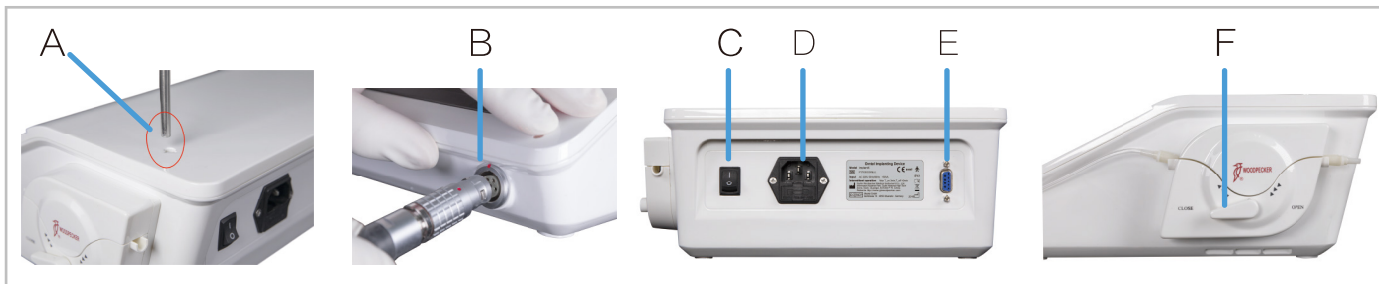

Figure 4
Connect the foot pedal plug to the foot pedal socket and tighten those two fixing screws (Figure 4 - E)
Plug the power cord output into the power supply socket of the device (Figure 4 - D)
Insert the infusion bottle holder into the fixing hole on the right rear of the shell; (Figure 4 - A)
Plug the tail cord of motor into the output socket on the front of the device (Note: align the red marking point). (Figure 4 - B)
4.2.8 Switch on (Figure 4 - C) ; start to use the machine as it displays normally: